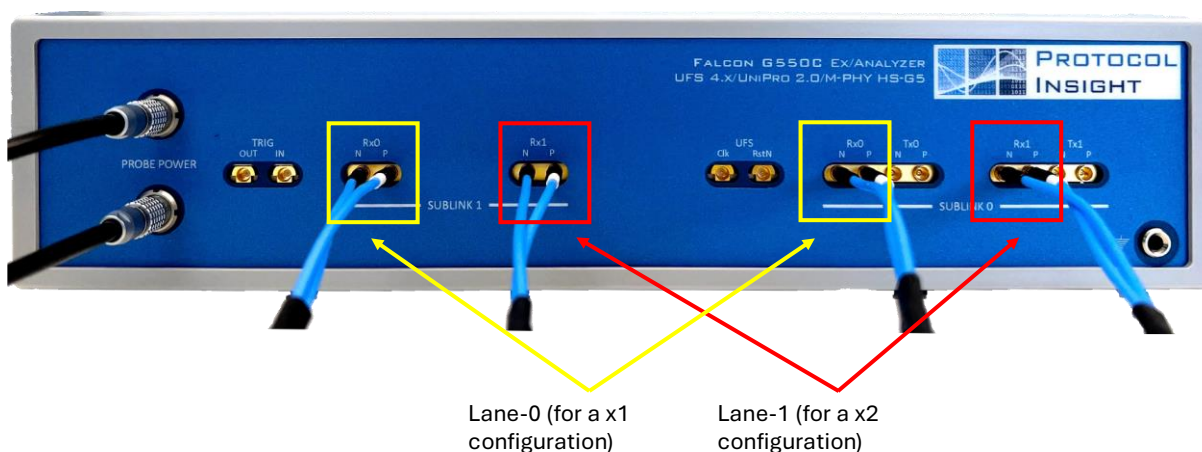

Figure 10 - Cabling Between Probe Amplifier and Analyzer
1. Plug the four SMP cables into Sublink 0 Lane 0 and Lane 1, Sublink 1 Lane 0 and 1 ports. The output SMPT ports on the Amplifier attach to the Analyzer front end SMP receptable connectors, as shown in Figure 10.